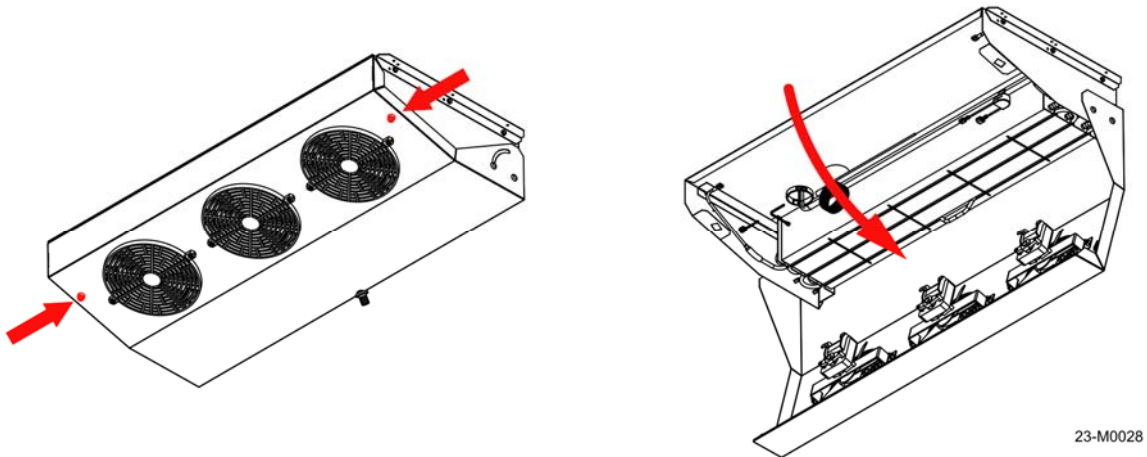

Figure 5-6
2. Disconnect the drain hose from the evaporator pan. The pan is secured with quarter-turn screws, one on each side. Push the screw in with a Phillips head screwdriver, rotate and carefully lower the pan down, refer to Figure 5-6.